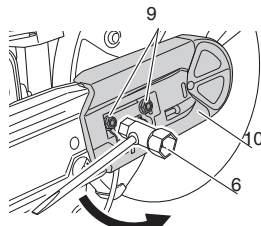

Fig. 11
1. Loosen the nut (9) with the combi box spanner (6) so that the arm cover (10) can move. (**Fig. 11**)